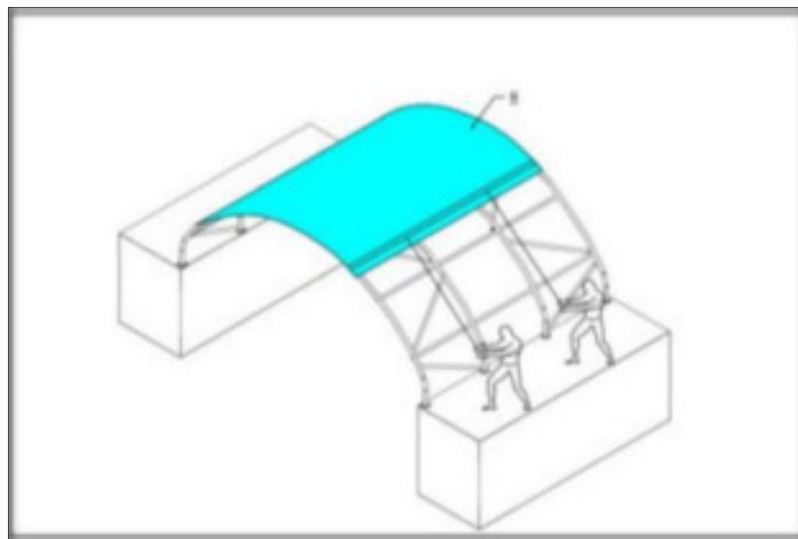

Figure 6
2. Put the Roof cover (part code 8) EVENLY, CAREFULLY AND SLOWLY atop the frame. Adjust the cover so that it is square and evenly centered on the frame. Refer to figure 6)